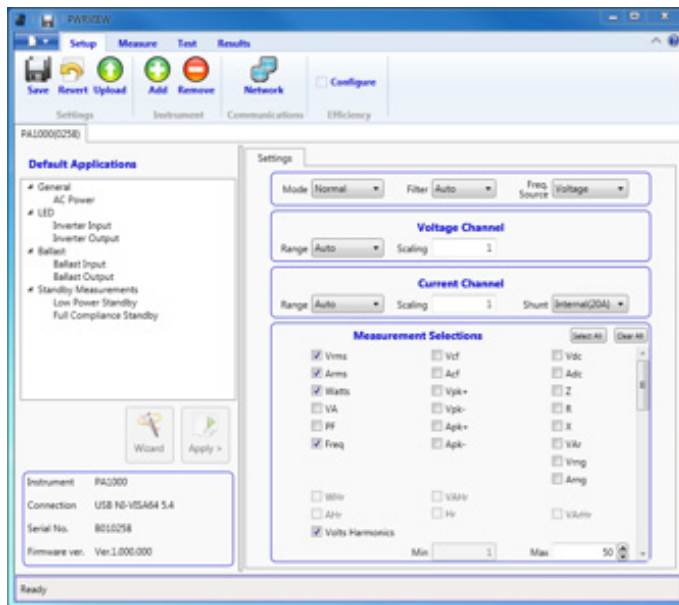

Figure 13. PWRVIEW software.
- Figure 13 shows the screen shot of PWRVIEW PC software